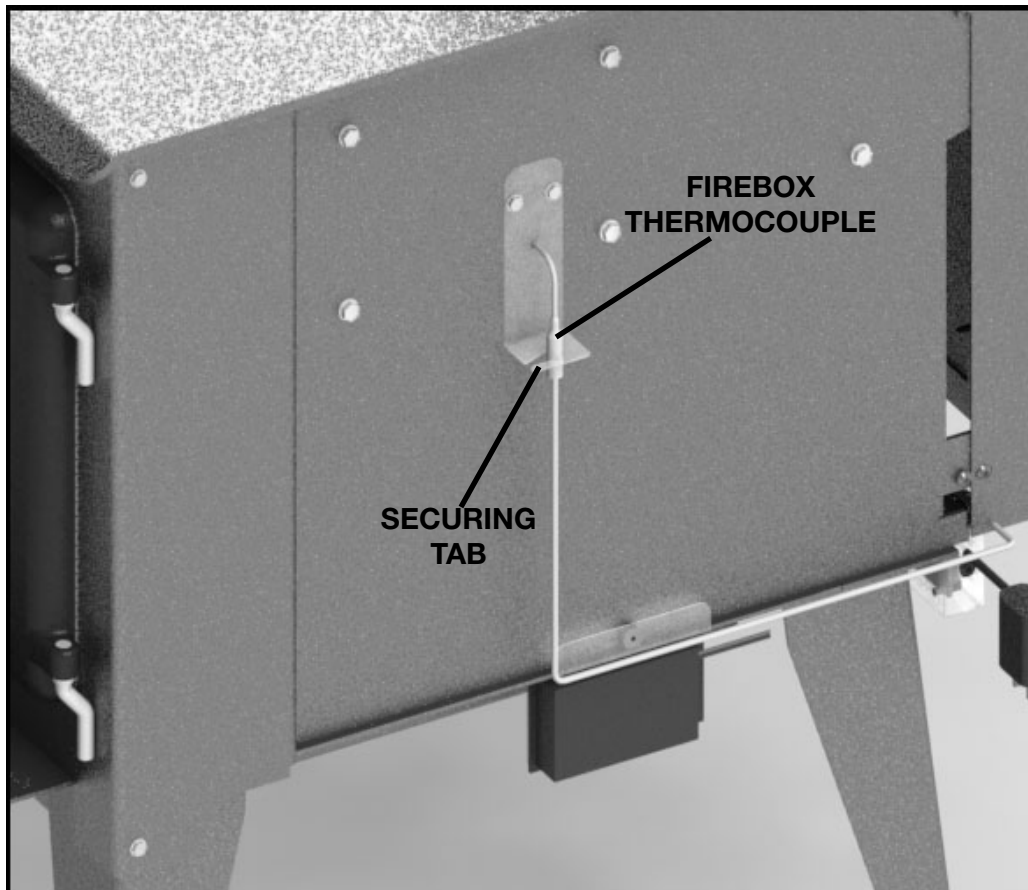

Figure 21: Firebox Thermocouple
2. Bend the securing tab on the thermocouple mounting bracket up approximately 45°. Figure 21
3. Rotate the thermocouple clock-wise to disengage it from the mounting bracket then pull it out of the firebox side. Figure 21